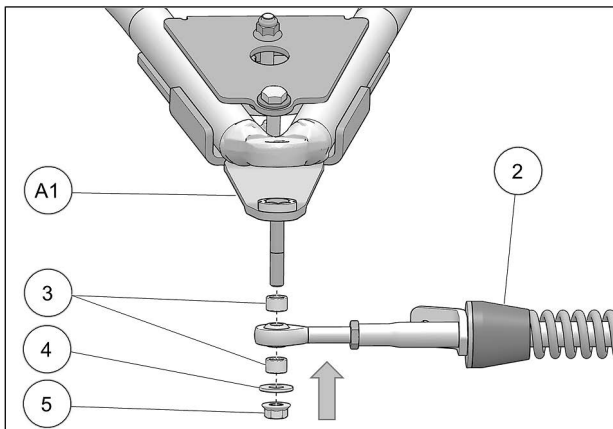

Fig. 25
14. Attach the stabilizing rod (2) to the anchor bracket (A1), using the two spacers (3), washer (4), and nut (5). Torque to 70 Nm [52 lb•ft]. See Fig. 25